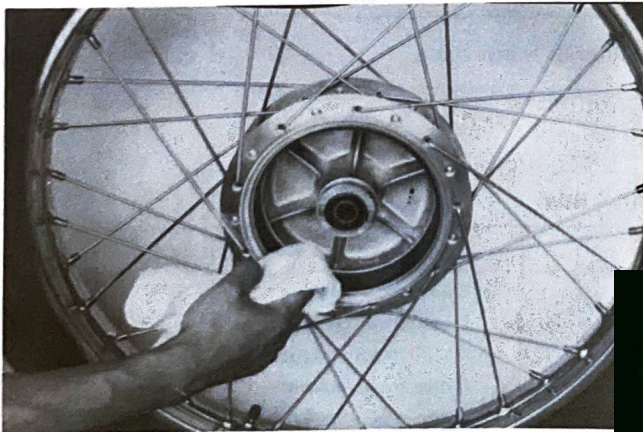

Fig. 9
b. Clean the front wheel hub and the brake shoe. (Fig. 9)